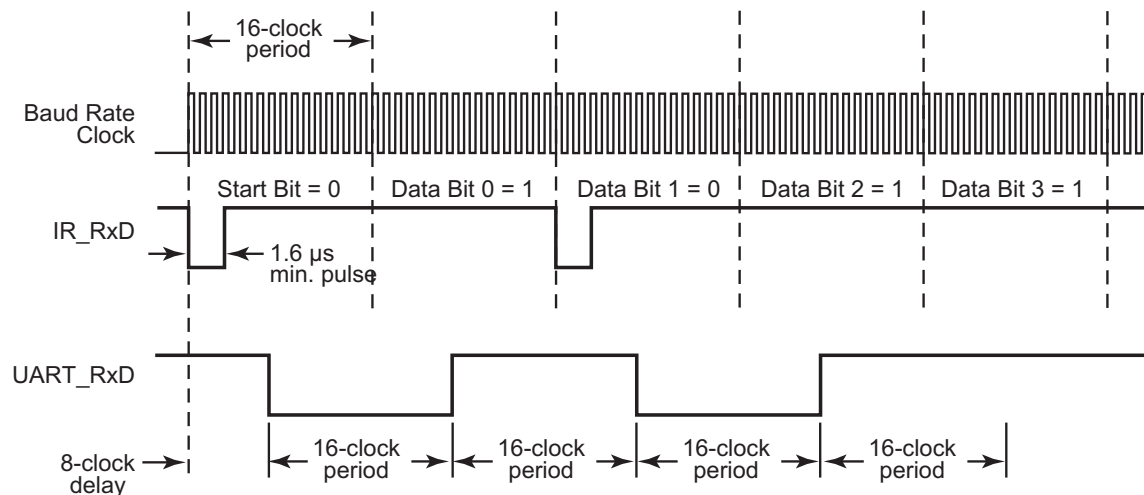

Figure 38. Infrared Data Reception
High (1) for the full 16-clock period. If the data to be received is a logical 0, a 3-clock Low (0) pulse is output following a 7-clock High (1) period. Following the 3-clock Low pulse is a 6-clock High pulse to complete the full 16-clock data period. Data transmission is illustrated in Figure 38.